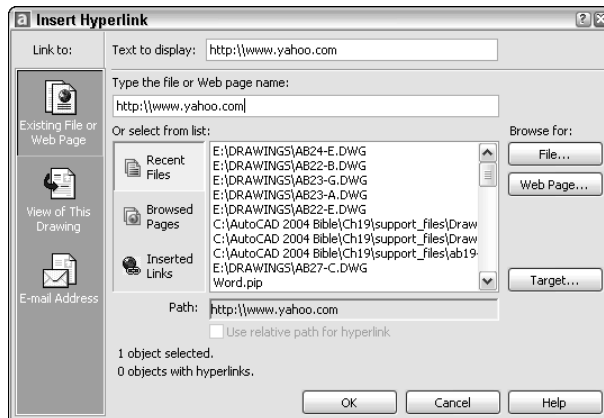

Figure 28-5: The Insert Hyperlink dialog box attaches hyperlinks to objects in your drawing.
2. Choose Insert ⇨ Hyperlink (or Ctrl+K) to open the Insert Hyperlink dialog box, shown in Figure 28-5. (If you choose Insert Hyperlink first, select objects at the prompt.)